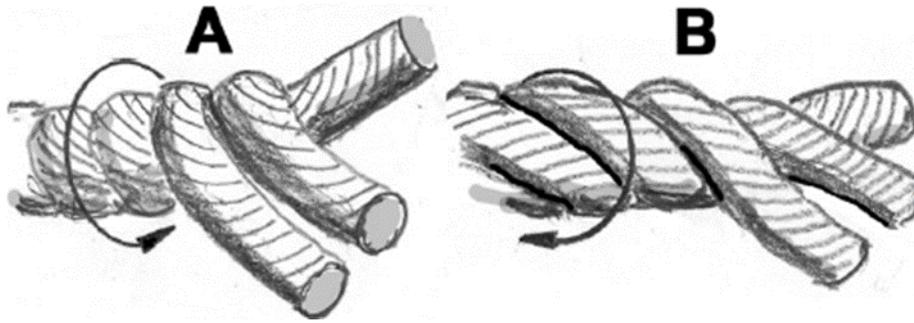

Figure 5 - The spirality of a rope from the cut
p.84 "My own epiphany about the importance of point of view in this context occurred 70 years ago. Instructor Chief Petty Officer Finch had explained to us training ship recruits: 'A hawser is composed of three single strands, laid up right-handed.' We were all holding bits of rope in our hands and I was unwise enough to ask: 'But Chief, aren't the strands twisting up lefthanded?' This was not well received, but I did learn an invaluable lesson. In the navy, when struck by a bright idea, there is much to be said for keeping it to oneself. Figure 5 makes clear why we were at cross-purposes. Looking directly at the cut end of the rope (A), the strands are laid up counterclockwise (left-handed). By convention, the observer looks along the length of the rope towards the end (B), with the strands twisting up clockwise."